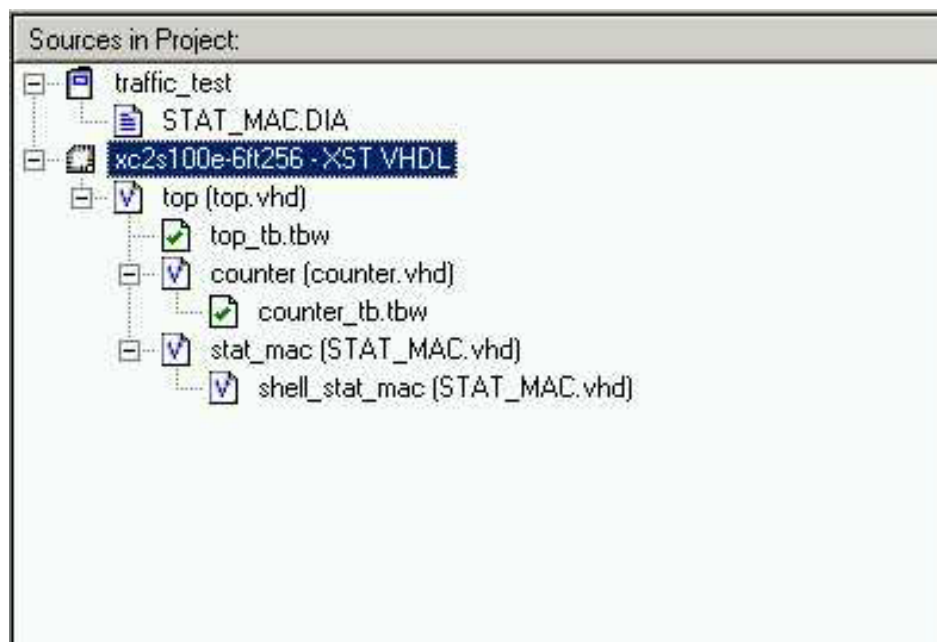

Figure 6.1.1 Sources in Project Window
*Double click on **xc2s100e-6ft256 - XST VHDL** in the **Sources** Window shown below in figure 6.1.1.*